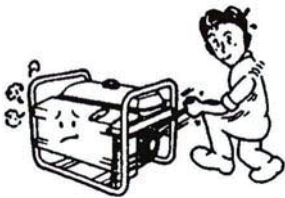

Fig . 52
10.1 Failure to Start the Engine: the generator cannot be started. (Figure 52)